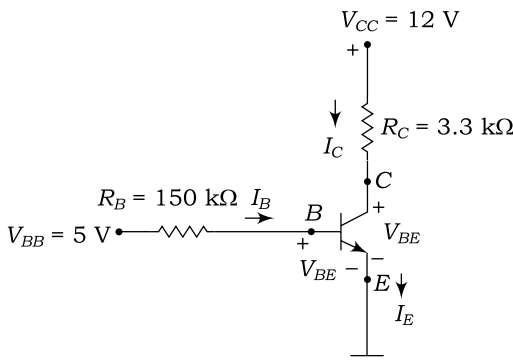

Fig. 2.110
32. Figure 2.110 shows an *NPN* transistor circuit. Determine the base current, collector current, emitter current, and collector-emitter voltage V_{CE} when $V_{BE} = 0.65 \text{ V}$ and $\beta = 90$.